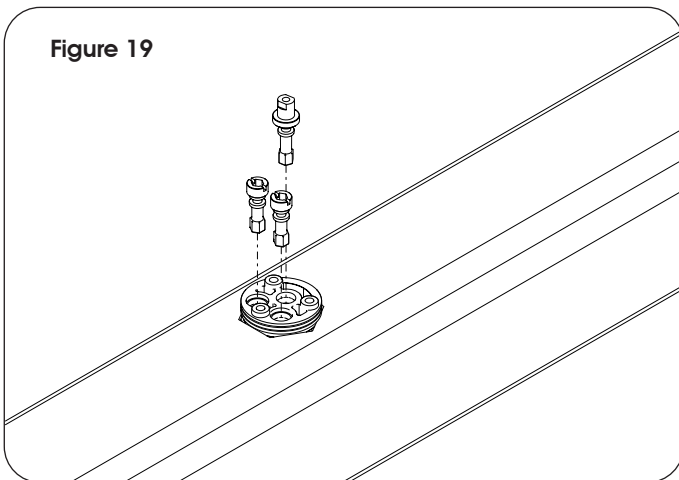

Figure 19
- Next remove the 3 extensions grabbing them with pliers and pulling straight up (Figure 19)